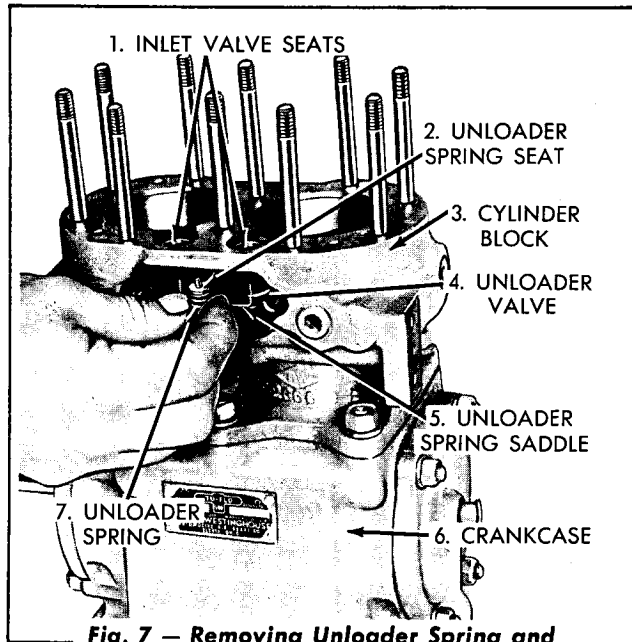

Fig. 7 — Removing Unloader Spring and Spring Seat from Cylinder Block
5. Remove the unloader spring and spring seat (Fig. 7).